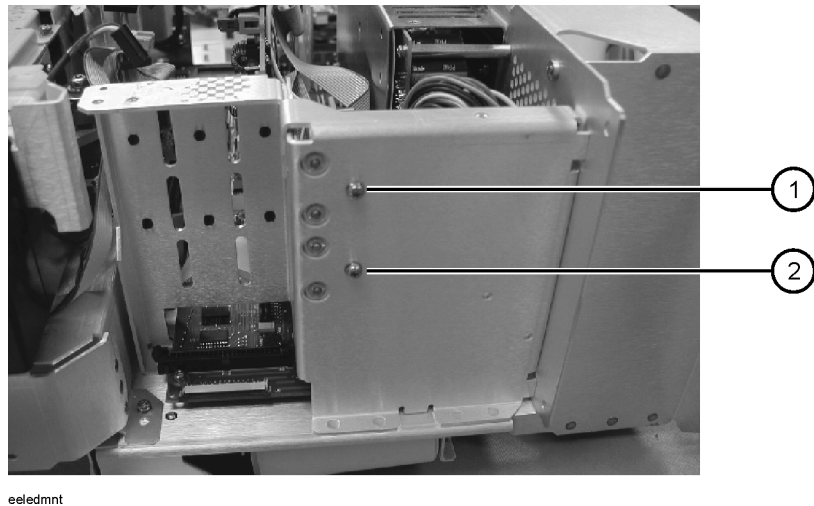

Figure 3-62. Removing the screws fastening the EELED assembly to the system chassis
- 5 Remove the two T-10 TORX screws fastening the EELED assembly to the front of the instrument chassis. See ① and ② in Figure 3-62 below.